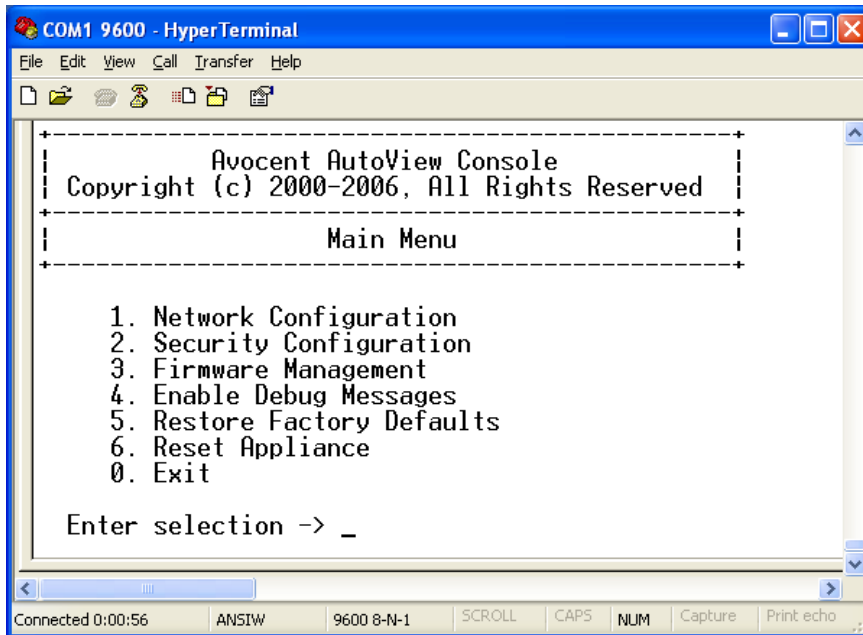

Figure 6.1: Console Main Menu
1. When you power up your AutoView 3100/3200 switch, the switch initializes for approximately one minute. After it completes initialization, press any key on the terminal or on the PC running the terminal emulation software to access the Console menu interface shown in Figure 6.1 on page 62.